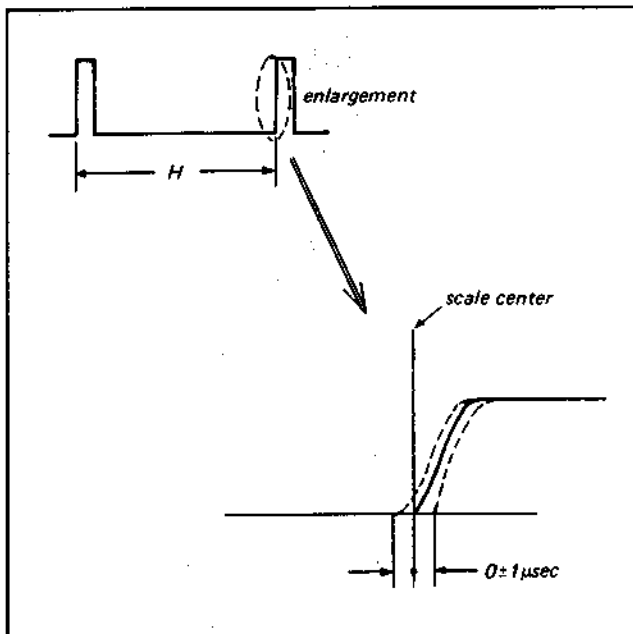

Fig. 4-3-7. Picture search free speed adjustment
- (1) Record a video signal.
- (2) Play back the recorded segment.
- (3) Connect the oscilloscope to pin 10 of IC7 on the YC-12 board.
- (4) Position the positive-going edge of the waveform at the exact center of the oscilloscope scale. (See Fig. 4-3-7.)